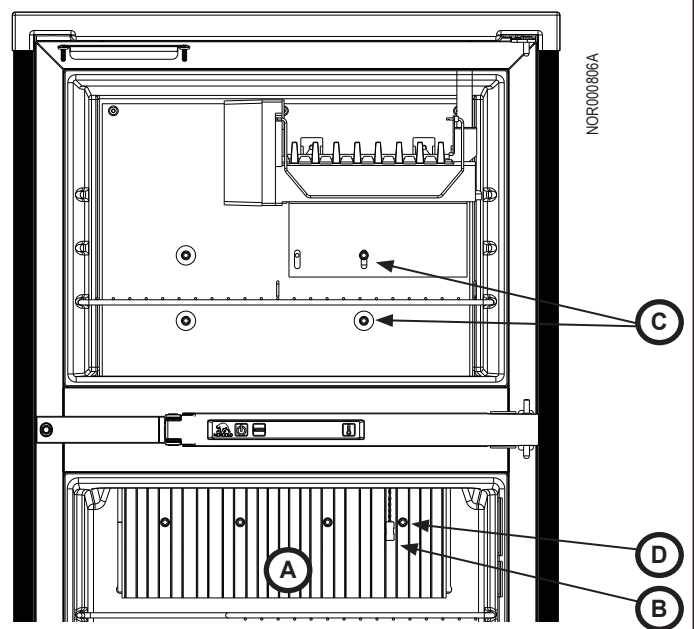

Fig. 4 - Evaporator Plate / Fins
1. Pull the thermistor and clip (Fig. 4, B) from the fins (Fig. 4, A) inside the refrigerator. Take note of which fin since it will be reattached to the new system. Allow the thermistor and clip to hang free. Do not disconnect the thermistor.
2. From the inside of the freezer compartment, remove the freezer evaporator plate screws and washers (4x) (Fig. 4, C) that attach the cooling unit to the back of the freezer. Set aside.
3. From the inside of the fresh food compartment, remove the fresh food fin screws (4x) (Fig. 4, D) that attach the fins to the cooling unit. Pull the fins toward you and up to remove. Mark the top of fins to reinstall correctly later. Set fins aside.
**NOTICE** Do not remove the top two (2) screws or remove the ice maker.